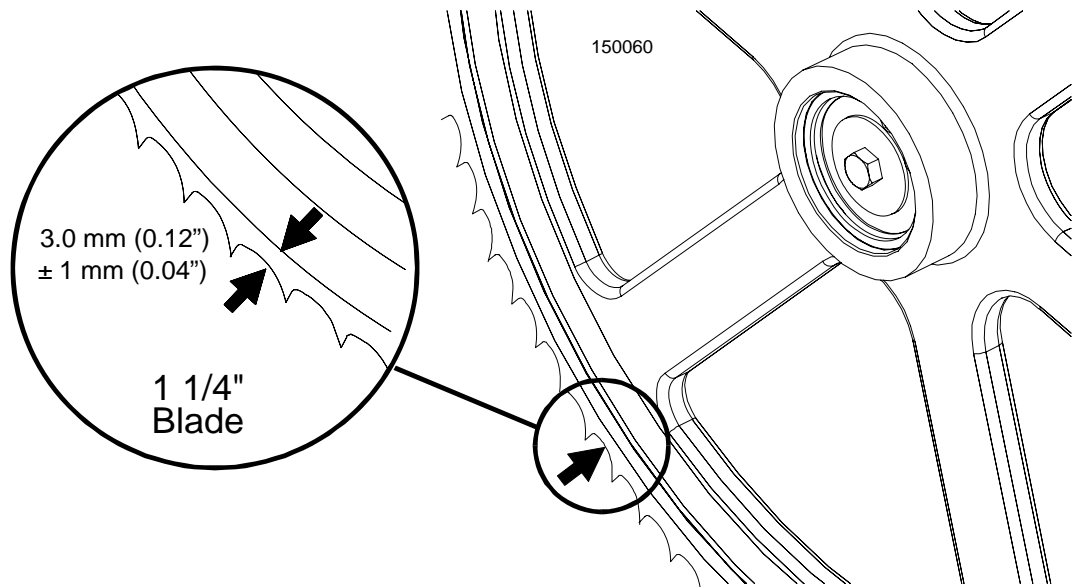

FIG. 6-11
**See Figure 6-11.** The vertical tilt of the blade wheel should be adjusted so that the gullet of 1-1/4" blade is 3.0 mm out from the front edge of the wheel ( $\pm 1.0$  mm).